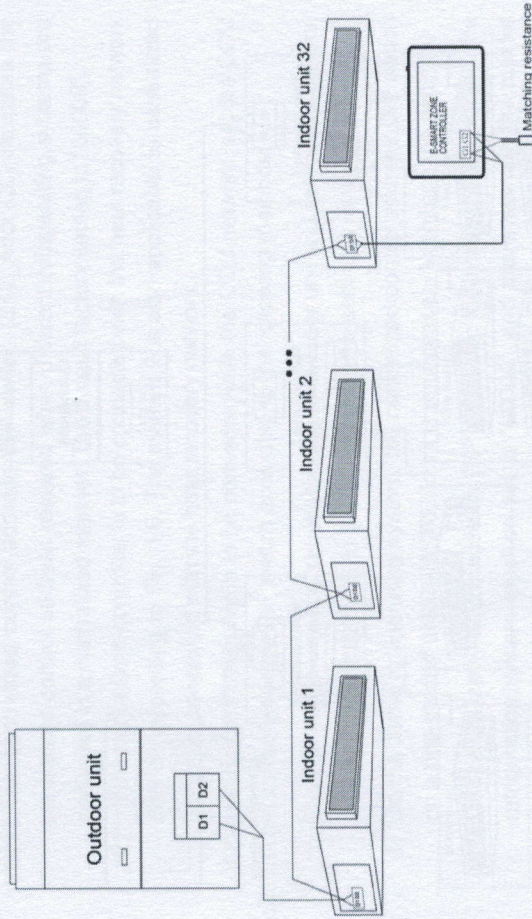

Fig. 1.4 Centralized Controller Connected with IDU Network
- (1) The smart centralized controller is applicable to multi VRF units, connectable with IDU network, ODU network or mode converter network. One centralized controller can control up to 16 sets of outdoor unit system and up to 32 sets of indoor unit.
- (2) If the centralized controller is to be connected with the IDU network, connect according to Fig.1.4. The controller can connect with any one indoor unit in series, that is, connect the controller's G1 and G2 ports with the D1 and D2 ports correspondingly with communication wires. When the controller is connected with the terminal unit of IDU network, a matching resistance needs to be added with the communication wires at the G1 and G2 ports.